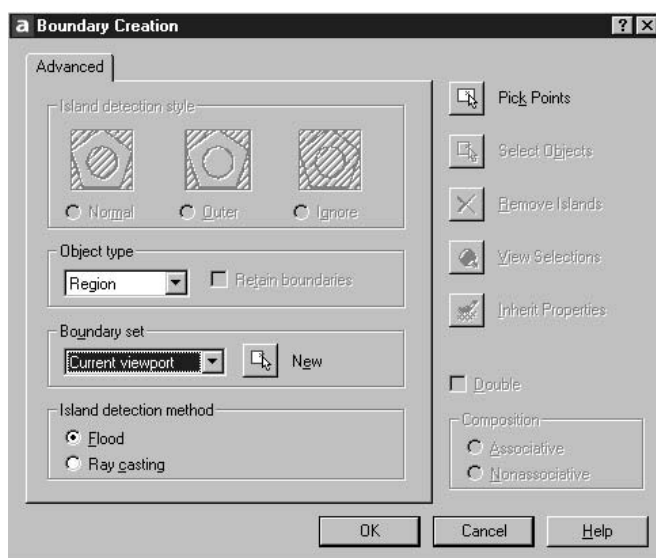

Figure 36.4 The Boundary Creation dialogue box.
- prompt* Boundary Creation dialogue box – Fig. 36.4